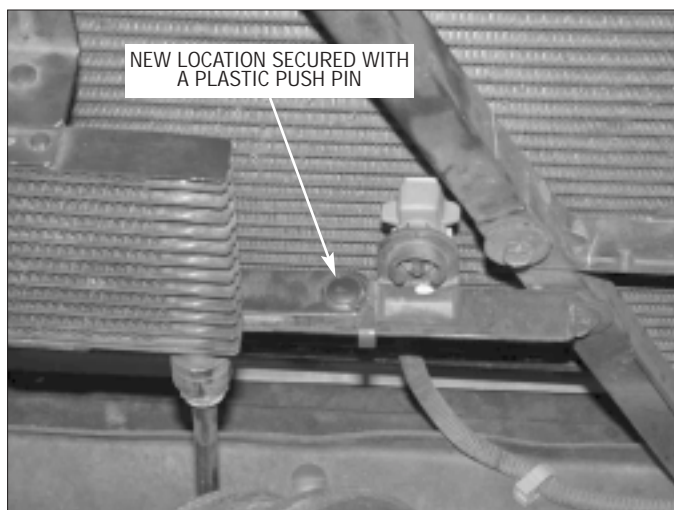

Fig. 16-a
- F. Keeping the sensor in place, move the transmission cooler toward the driver's side until the lower mounting hole lines up with the hole of the sensor. Use a plastic pushpin to secure both items in place. (See Fig. 16-a.)